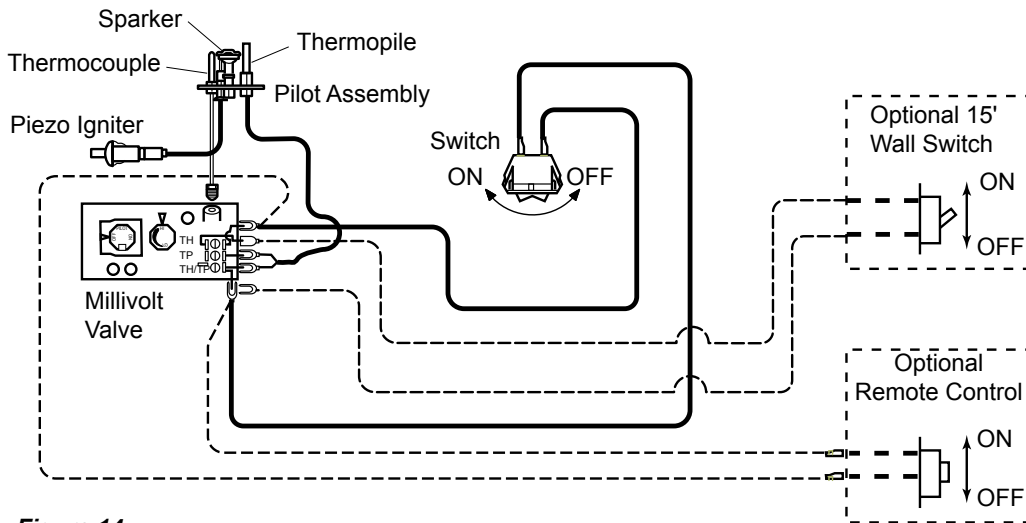

**Figure 13 -
5. To check gas pressures at valve, turn captured screw counter clockwise 2 or 3 turns and then place tubing to pressure gauge over test point. Turn unit to high. *Figure 13.* After taking pressure reading, be sure and turn captured screw clockwise firmly to reseal. Do not over torque. Check test points for gas leaks with a soap and water solution or an electronic gas leak detector.